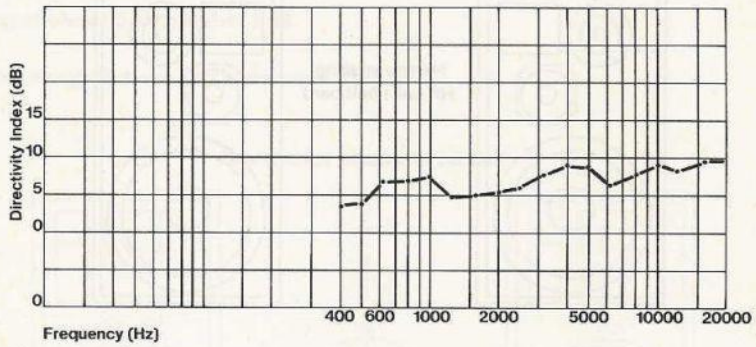

Figure 5 Directivity Index (DI), L112
The power response of a loudspeaker system has to do with the total output over its frequency range. The measurement we present here is the system's directivity index (DI). DI is measured in decibels and represents the system's overall energy output relative to its on-axis response. Figure 5 shows the DI of the L112 system. Note that it is flat within  $\pm 2.5$  dB over the frequency range from 600 Hz to 16 kHz. The maintenance of a fairly flat DI over such a large range ensures that the reverberant sound field in the listening room will be smooth.